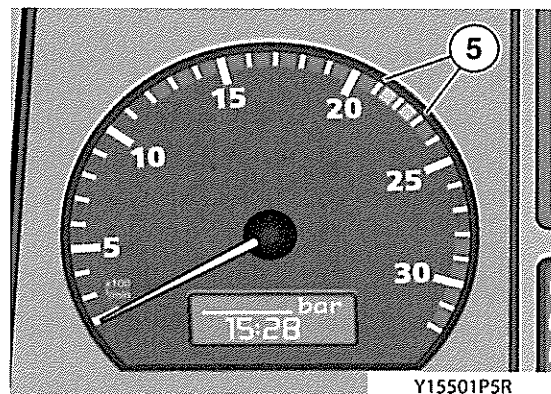

Fig 14 BrakeMatic operation – deceleration
55 Refer to Fig 14. The zone for optimum engine brake effectiveness is indicated by two LEDs (5) (light green).